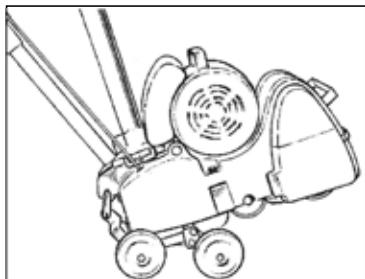

Figure 4
2. Hold the dolly in position using your foot and allow the machine to tip back and rest on the dolly wheels. (See Figure 4)